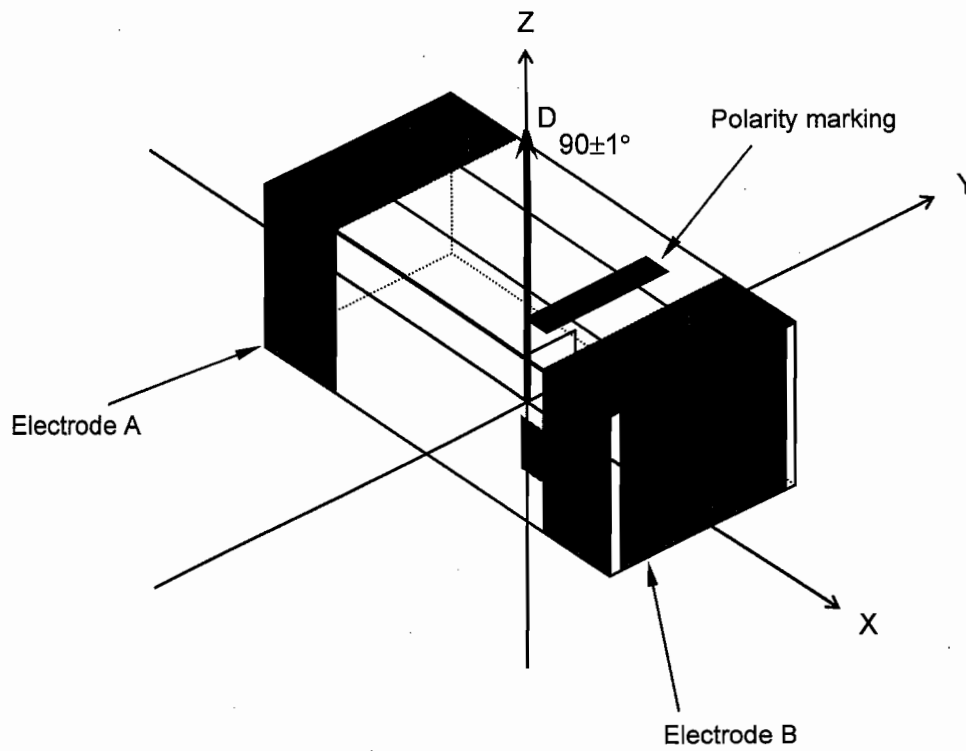

Figure 1.
- As measured with an applied acceleration in the direction of D at figure 1. In this case, positive voltage and electrical charge are generated at electrode B.